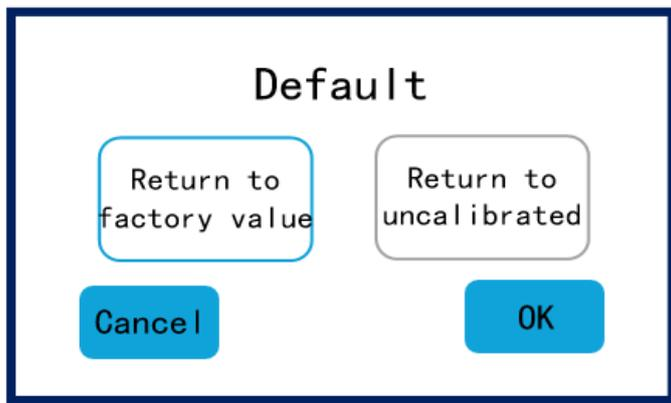

Fig 4.9 Restore Default Interface
**Restore default:** Added the option to restore the temperature value to the factory value state and restore it to the uncalibrated state, as shown in Figure 4.9. If modifying the temperature value by misoperation, users can restore the temperature value to the factory default value. If  has no effect, modify any temperature value and try again.